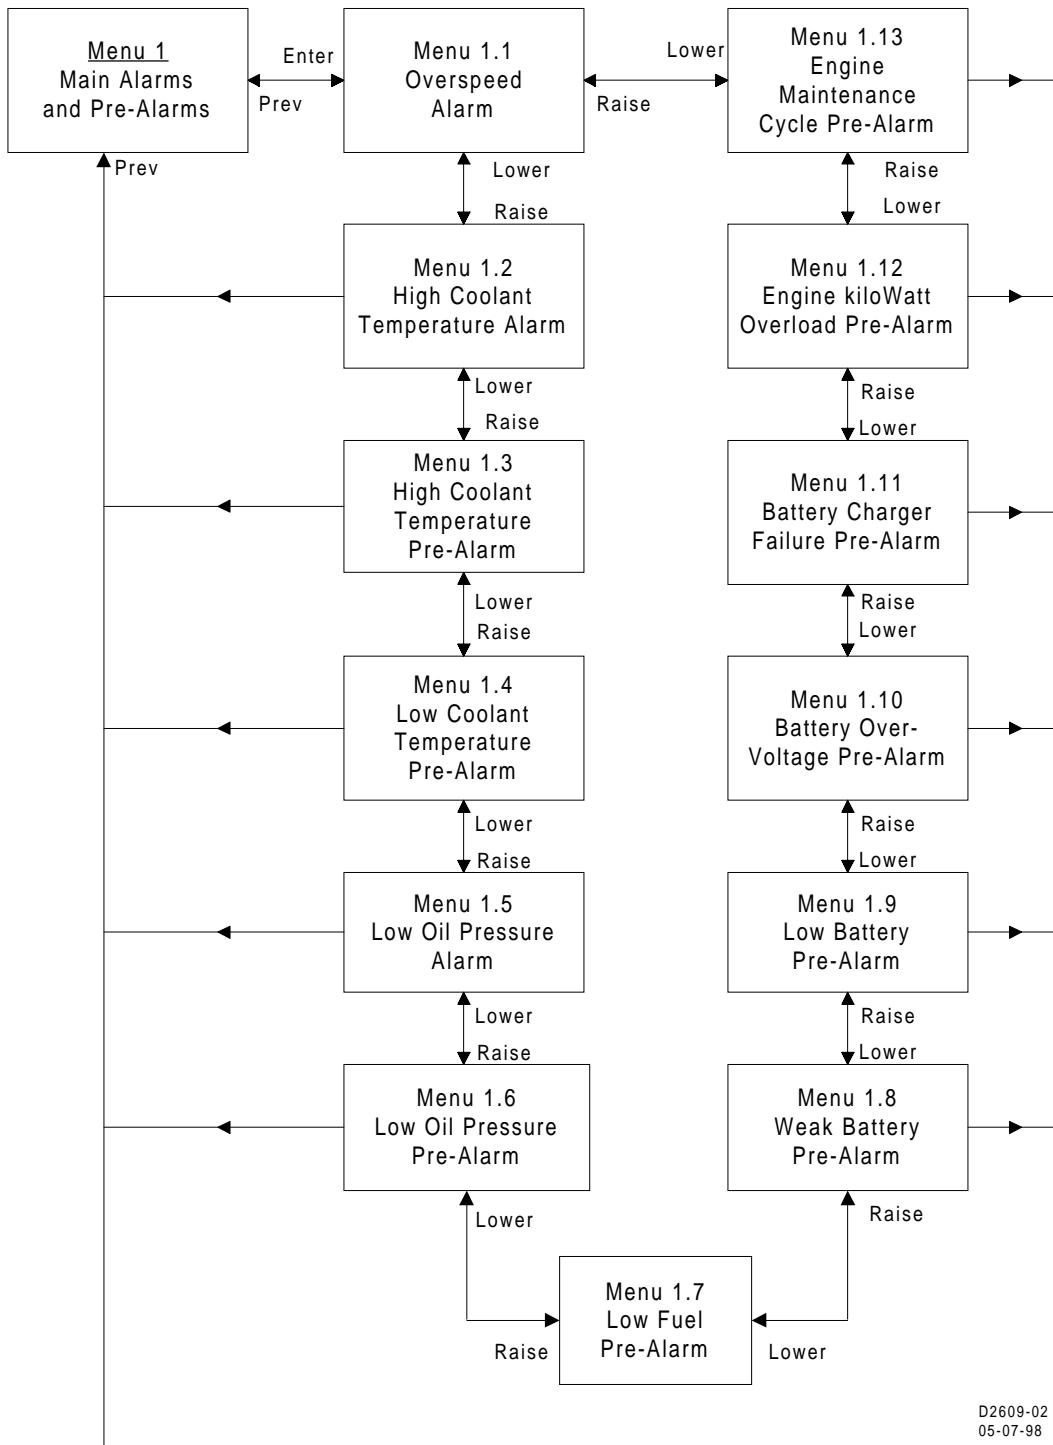

Figure 3-4. Menu 1
*Menu 1.* Menu 1 is the alarm and prealarm menu. Pressing **Select/Enter** (Figure 3-4) from this menu begins the 1.x menu level. Pressing **Raise/Scroll** and **Lower/Scroll** from this menu scrolls through the 1.x menu level.